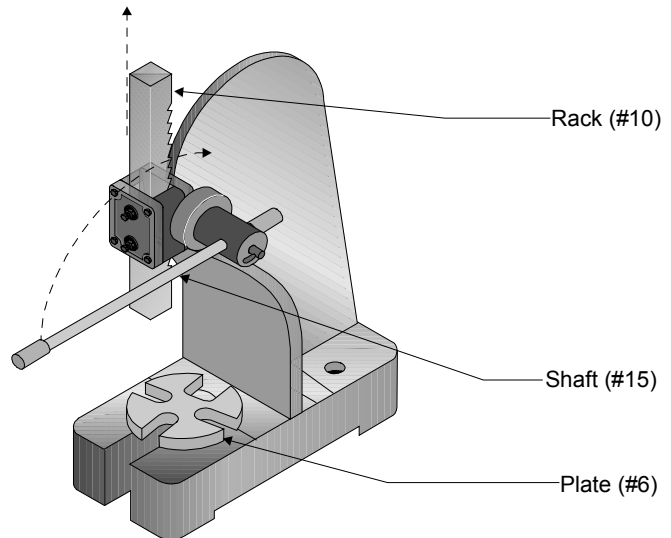

Figure 7 -- Raising the Rack
1. Raise the RACK (#10) up by turning the Handle Assembly as shown in Figure 7.